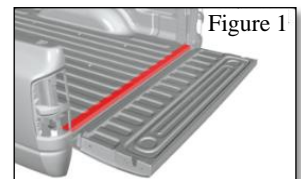

Figure 1
- Use clean cloth and cleaner that will remove oil/grease to clean the bedside surface where tape will be applied (see Figure 1). Let dry and then apply included adhesion promoter to truck bed surface where tape will be applied.